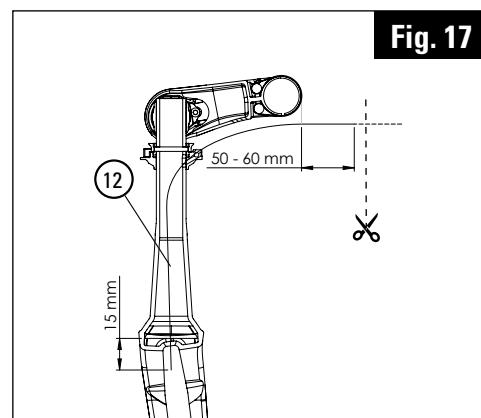

Fig. 17
2 / Pass the liner ⑫ through the fork pivot. Bring the liner out between the arms of the fork to protrude by approximately 15 mm (see Fig. 17). Cut the liner between 95mm and 105 mm (see Fig. 17).